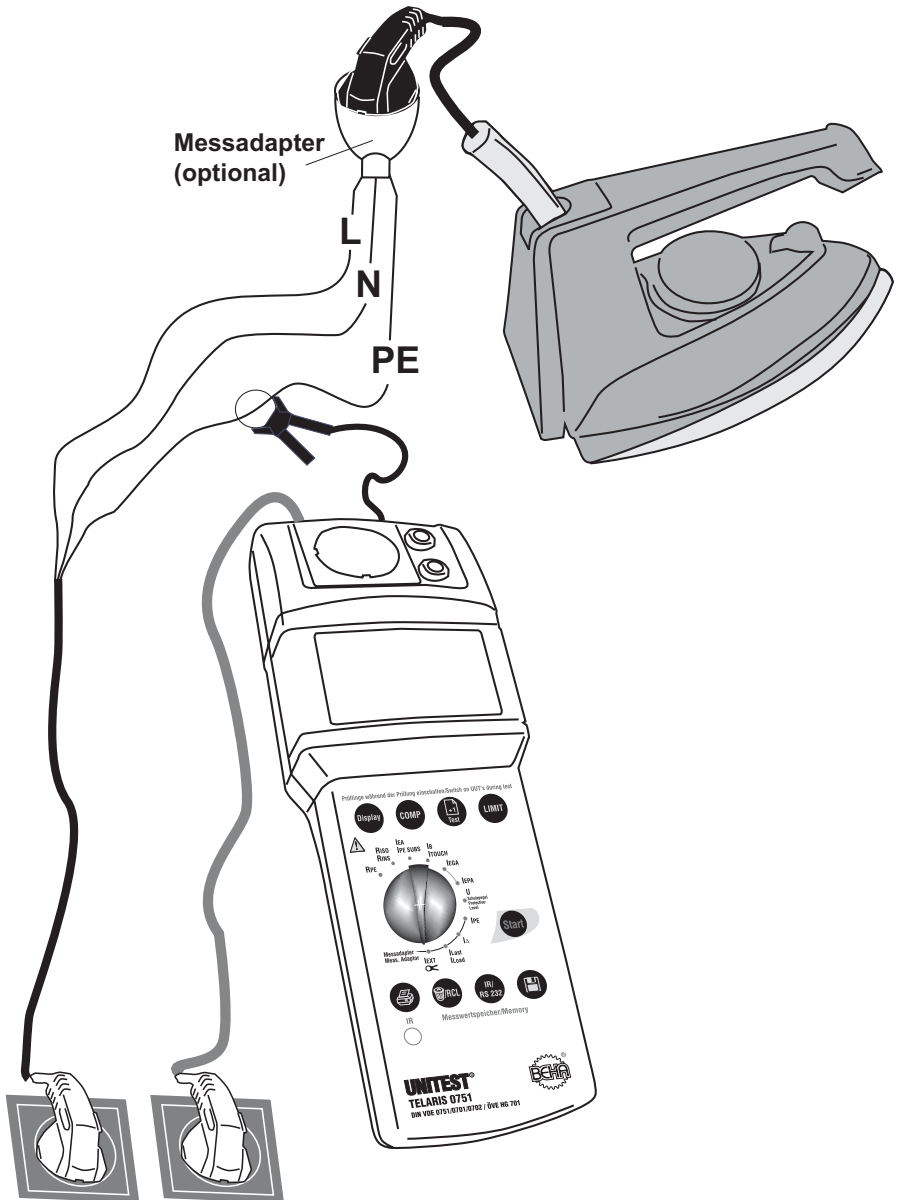

Figure 6.17: Measuring the PE current using a current clamp adapter
- ▶ Connect the UNITEST TELARIS 0751 via the mains plug (1) to a functional and correct wired and grounded mains socket.
- ▶ Connect the Schuko Measurement Adapter to the measurement adapter connector (18) of the UNITEST TELARIS 0751.
- ▶ Turn the 'Measurement function' selection switch (15) to position 'IEXT'.
- ▶ To perform the measurement, surround the PE resistance of the UUT with the current clamp adapter, please refer to Figure 6.17.
- ▶ Press the key "Start" (9). The unit symbol which is blinking on the display is an indication for the active measurement procedure.
- ▶ Read the measurement value from the LC display (6).
- ▶ Read the second value from the LC display. (16). The higher measurement value of both measurement values has to be considered and recorded.
- ☞ The measurement results can be saved by pressing the key "Store" (10). For references regarding the saving of measurement values, please refer to section 7.1 and 7.2.